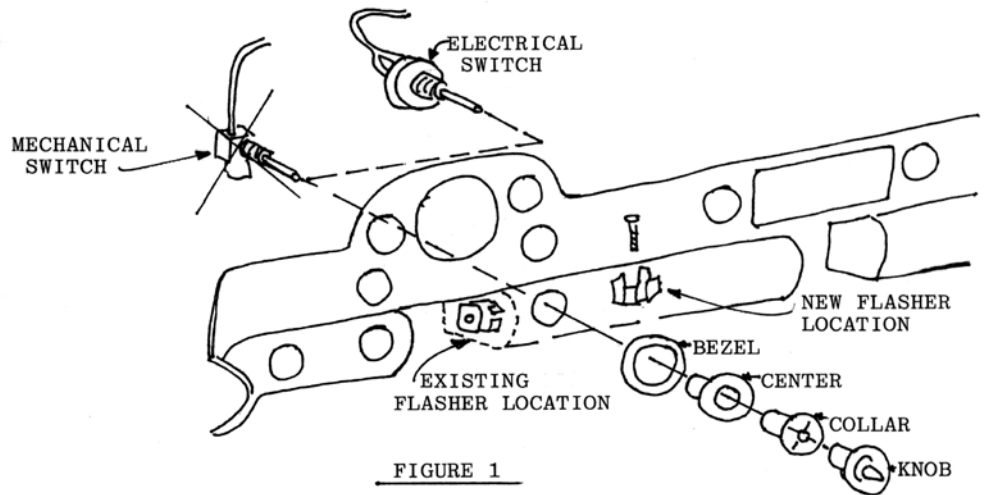

FIGURE 1
4. The turn signal flasher unit and bracket must be re-located to provide clearance for the electric wiper control switch. See Figure 1.
6. Install switch assembly in dash. This kit is designed to use your original knob. The switch is mounted in exactly the same manner as the mechanical unit previously removed. Make certain that the flat portion of the shaft is aligned with the corresponding shape of the mounting hold in the dash. Apply bezel, center , and threaded collar, apply knob. Turn knob, make certain switch is in the "off" position (counter-clockwise). There are three positions. See Figure 1.